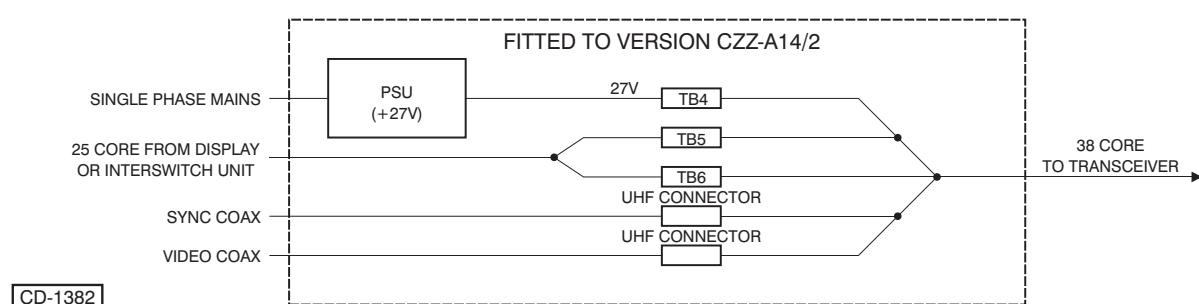

Figure 9c - Soft Start Unit CZZ-A14/*: Block Diagram
- 32 A block diagram of the Soft Start Unit is shown in Figure 9c, below.